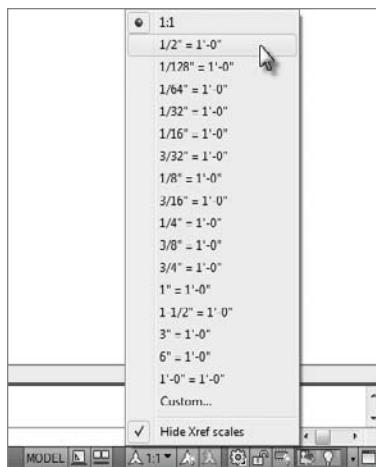

FIGURE 6.44 The Annotation Scale list
7. Select $1/2" = 1'-0"$ from the list of scales, as shown in Figure 6.44.